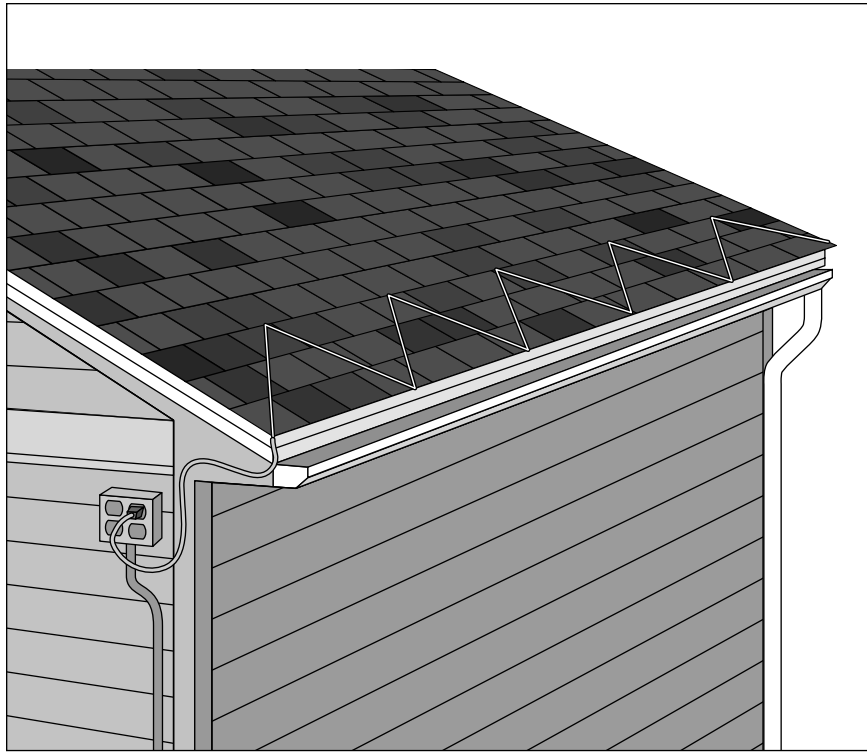

Figure 5-4:
- ✔ **Consider installing an eave-heating device such as heating tape or heating wire (see Figure 5-4).** These devices prevent water from freezing on your eave.